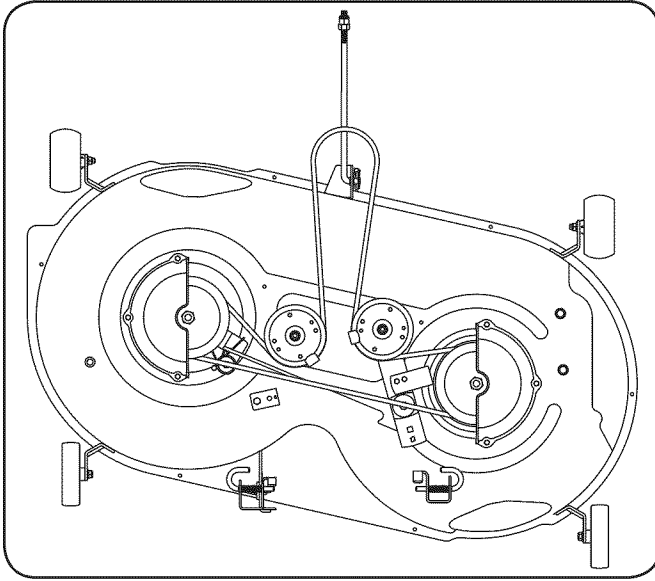

Figure 7-8
- To place the new belt begin by routing the belt around the two outer spindle pulleys as shown in Fig. 7-8.
- Then route the belt around the two deck idler pulleys as show in Fig. 7-8.